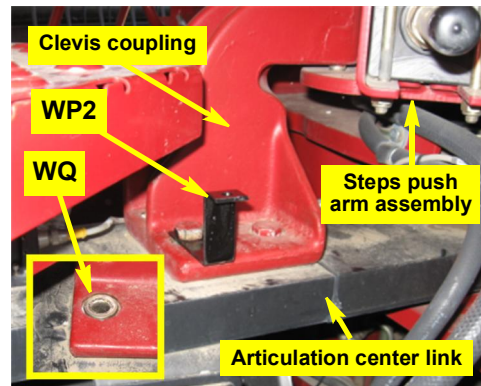

Figure 2c: WAS rod link bracket
- d. Remove the rear bolt from the right side of the steps push arm assembly's clevis coupling on the machine's articulation center link (Figure 2c inset). Place spacer **WQ** in the recess in the clevis coupling, then, using the removed bolt, install WAS link rod bracket **WP2** on the clevis coupling (and spacer). Set **WP2** square to the clevis coupling and with its short leg outward (Figure 2c).